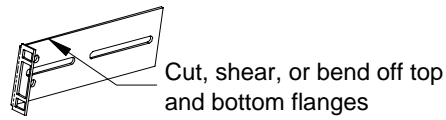

Figure 6 Modifying rear bracket
2. Requires bracket to be modified as shown in Figure 6.